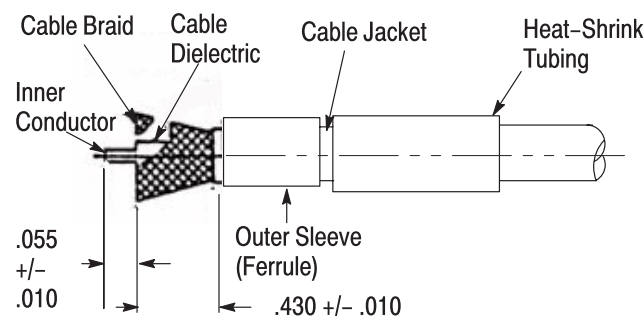

Figure 2
- Remove the end portion of the cable jacket (according to Figure 2) to expose the cable braid.